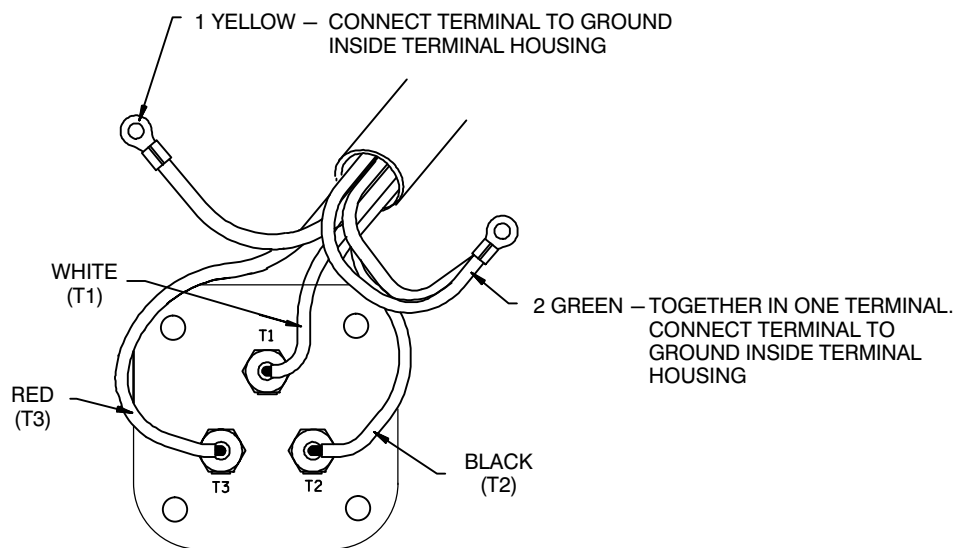

Figure C-6. Terminal Housing Wiring Connections
Slide a length of heat-shrink tubing (15) up over each of the power cable leads. Install the leads on the terminal posts as shown in Figure C-6 and secure them using the hex nuts (6). Slide the tubing down each lead until the terminals are covered and the tubing contacts the terminal plate. The tubing **must** extend up the leads far enough to ensure a good seal.